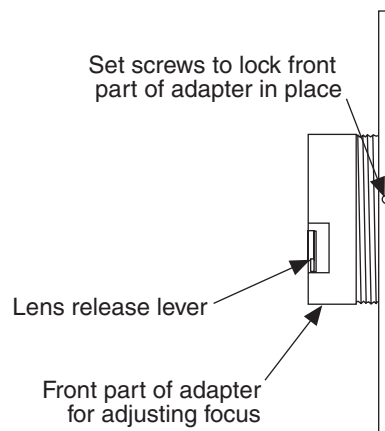

Figure 18. F-mount Focus Adjustment
- f. In the case of a camera with an F-mount, the adapter itself also has a focus adjustment. If necessary, this focus can be changed to bring the image into range of the lens focus adjustment. The lens-mount adjustment is secured by four setscrews as shown in Figure 18. To change the focus setting, proceed as follows.